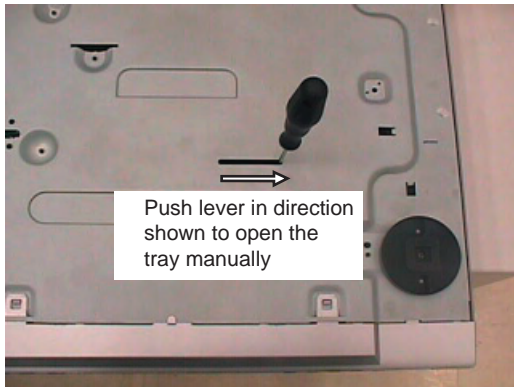

Figure 1
- 1) The tray can be manually open by inserting a minus screw drive and push the lever in the direction as shown in Figure 1 to unlock the tray before sliding it out.